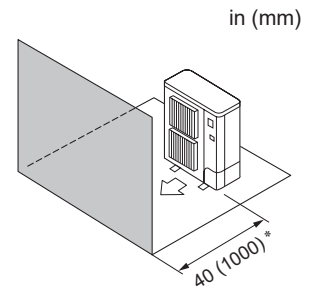

Fig. 2-9
- ④ Obstacles at front (Fig. 2-9)